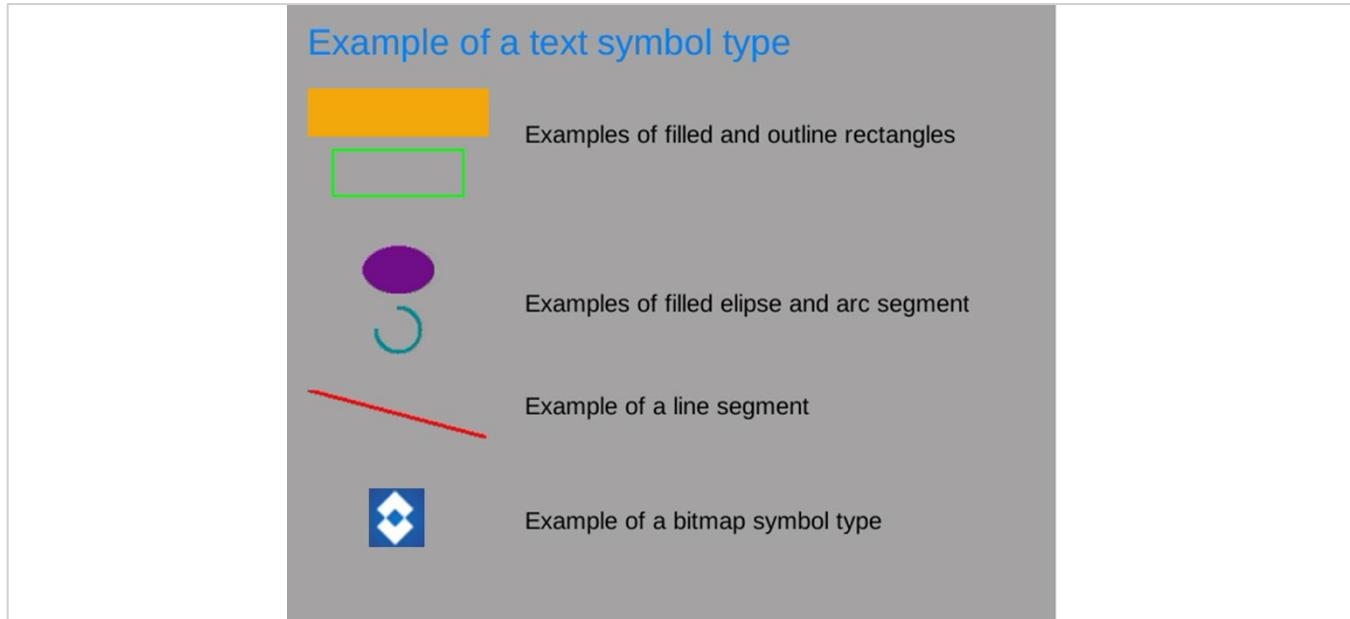

FIGURE 44: EXAMPLES OF BOSON+ SYMBOL TYPES
Boson+ provides the option to specify custom symbol overlays. The camera supports several built-in symbol types, including rectangles, elliptical arcs, text, and lines as exemplified in Figure 44. In addition to built-in symbol types, the camera allows bitmaps to be uploaded for display. The width of the bitmap must be an integer multiple of 8.
- Start radius / end radius, from 0 to 360. This attribute applies to the arc segment symbol type only. It specifies the starting and ending angles where angle = 0 is to the right and angle = 180 is to the left. The arc between the starting angle and ending angle is drawn clockwise. For example, the arc segment shown in Figure 44 has starting radius = 270 and ending radius = 180.
- Font type, 1 = built in font (Chrome Croscore Arimo font, used under authority of the Apache License, Version 2.0), 2 = user replaceable font file. This attribute applies to text symbol type only. All the text shown in Figure 44 was generated with the built-in font.